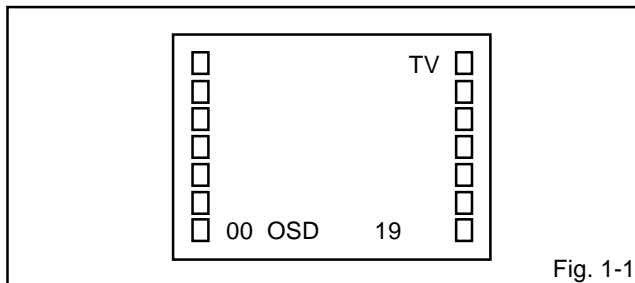

Fig. 1-1
1. In the condition of NO indication on the screen. Press the VOL. DOWN button on the set and the Channel button (9) on the remote control for more than 2 seconds to appear the adjustment mode on the screen as shown in **Fig. 1-1**.
3. Activate the adjustment mode display of **Fig. 1-1** and press the channel button (01) on the remote control to select "CUT OFF".
4. Activate the adjustment mode display of **Fig. 1-1** and press the channel button (10) on the remote control to select "R.BIAS".
3. Activate the adjustment mode display of **Fig. 1-1** and press the channel button (22) on the remote control to select "TINT".
6. Activate the adjustment mode display of **Fig. 1-1** and press the channel button (19) on the remote control to select "COL.CENT".
3. Activate the adjustment mode display of **Fig. 1-1** and press the channel button **(05)** on the remote control to select "H.PHAS".
3. Activate the adjustment mode display of **Fig. 1-1** and press the channel button **(06)** on the remote control to select "V.SIZE".
3. Activate the adjustment mode display of **Fig. 1-1** and press the channel button **(07)** on the remote control to select "V.SFT".
1. Activate the adjustment mode display of **Fig. 1-1**.
3. Activate the adjustment mode display of **Fig. 1-1** and press the channel button **(13)** on the remote control to select "BRI.CENT".
2. Activate the adjustment mode display of **Fig. 1-1** press the channel button **(17)** on the remote control to select "CONT.MAX".
5. Activate the adjustment mode display of **Fig. 1-1** press the channel button **(17)** on the remote control to select "CONT.MAX".